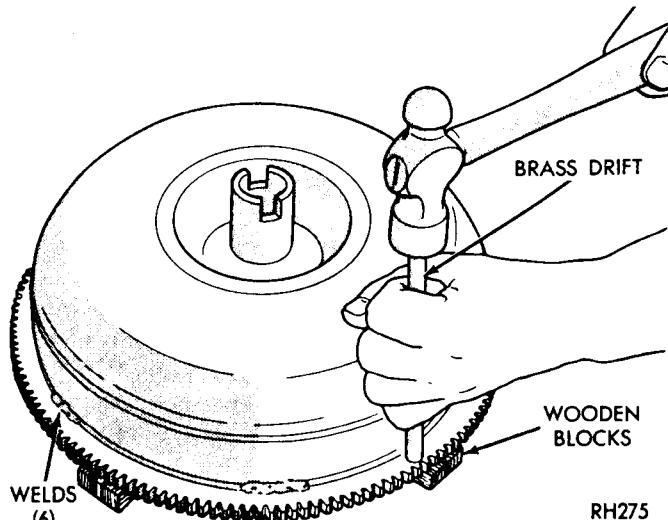

Fig. 2—Remove Starter Ring Gear
(1) Cut through weld material at rear side of ring gear with a hack saw or grinding wheel (Fig. 2). Be careful not to cut or grind into front cover stamping.
(2) Scribe a heavy line on the front cover next to front face of ring gear to aid in locating the new gear.
(3) Support torque converter on front cover, next to the lugs with blocks of wood to prevent altering lug position. The torque converter must **not** rest on the front cover hub during this operation. Using a blunt chisel, or drift and hammer, tap downward on ring gear near welded areas to break any remaining weld material (Fig. 2). Tap around ring gear until it comes off the torque converter.
(4) Smooth off weld areas on the cover with a file.